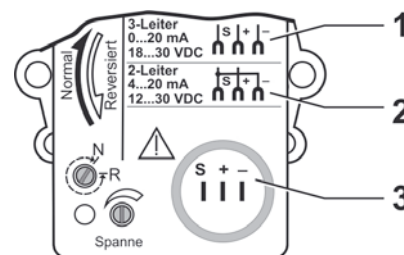

Fig. 6: Electrical connection
- for two-wire system 12 to 30 V DC (fig. 6, item 2)
- for three-wire system 18 to 30 V DC (fig. 6, item 1)